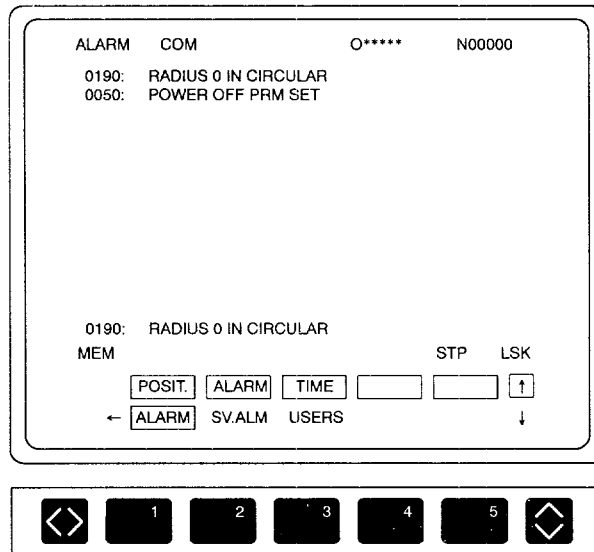
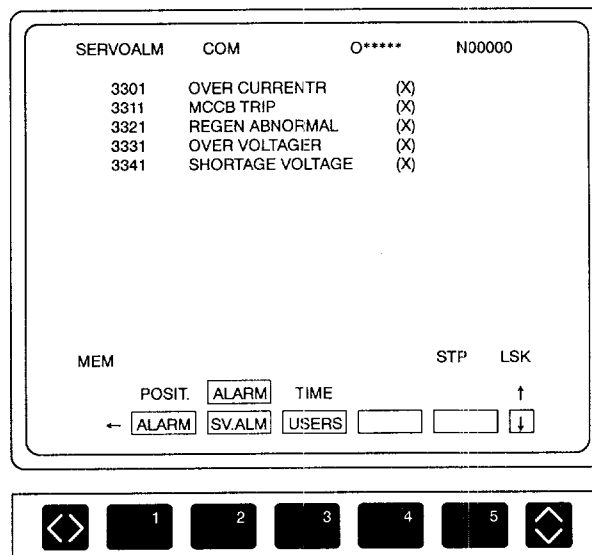

Fig. 7.7 Alarm Message Display Screen
Fig. 7.8 Servo Alarm Display Screen
- ① When the [SV.ALM] (f2) function soft-key is pressed, the servo alarm display screen is displayed as shown in Fig. 7.8. If an alarm related with the SERVOPACK is displayed on the alarm message display screen (Fig. 7.7), details of the SERVOPACK related alarm can be checked on this screen.